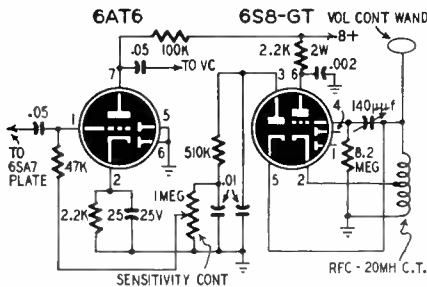

Fig. 2—Hand-operated volume control.
A. Fig. 2 shows how a capacitance-operated volume control can be added to your Theremin.